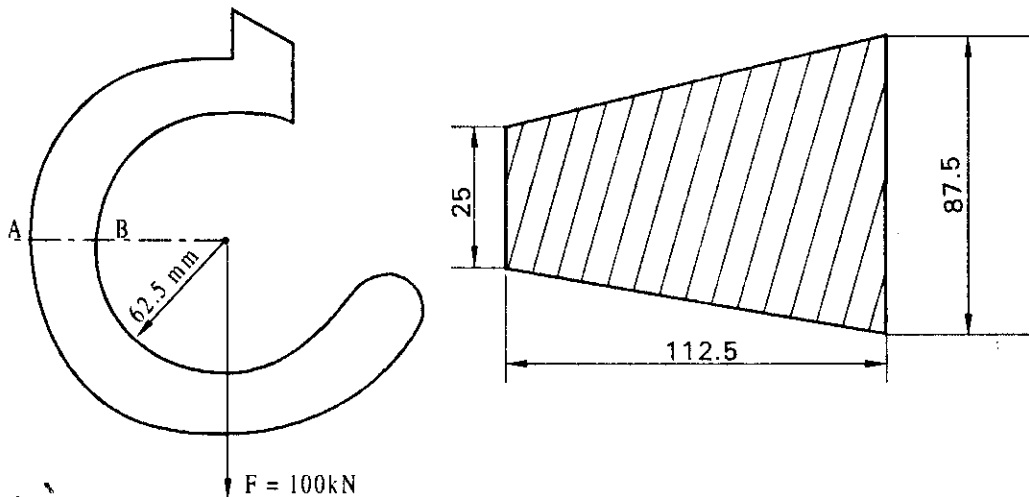

Fig.1.39
b) Fig. 1.39 shows a 100 kN crane hook with a trapezoidal section. Determine stress in the outer, inner, Cg and also at the neutral fibre and draw the stress distribution across the section AB. **VTU, Jun/July. 08**